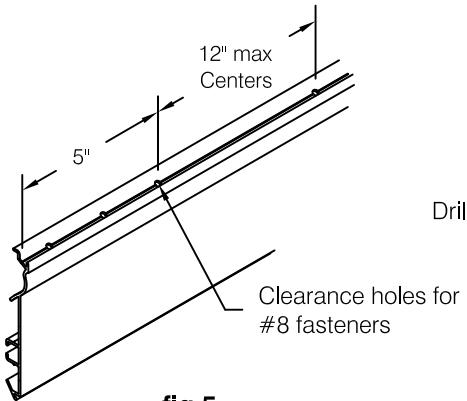

fig 5
- At 5" from end of retainer then not to exceed 12" on center for wood handrail at ends adjoining wall returns and outside corners, see **fig 5**.